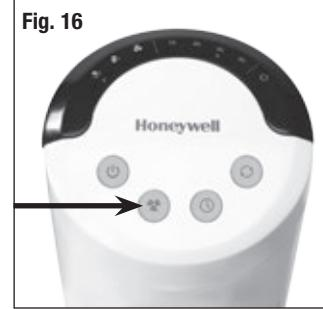

Fig. 16
- To select fan speed, press Speed Control button (▲) until the desired speed is selected: High (▲), Medium (▼), or Low (○) (Fig. 16).